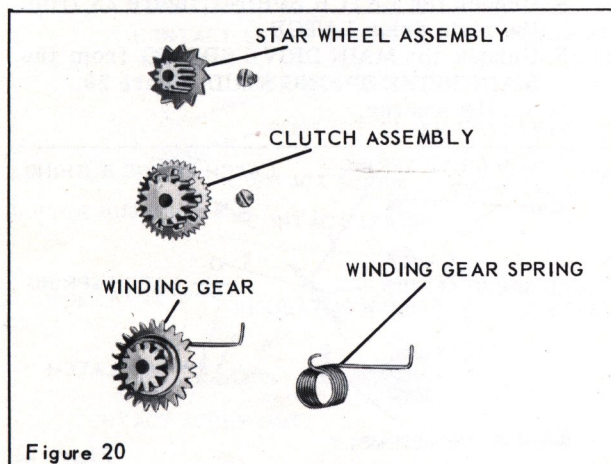

Figure 20
The CLUTCH ASSEMBLY, figure 20, is slipping.	Replace the clutch assembly.
3. Winding lever, with the sixth or seventh tooth from the left meshed with the WINDING GEAR, figure 20. Place the WINDING GEAR SPRING in tension by giving two and one-quarter strokes to the winding lever, lifting and replacing the lever after the first and second strokes. This should be the approximate setting for the flash synchronization of the shutter.
4. WINDING GEAR, figure 20, and the WINDING GEAR SPRING.